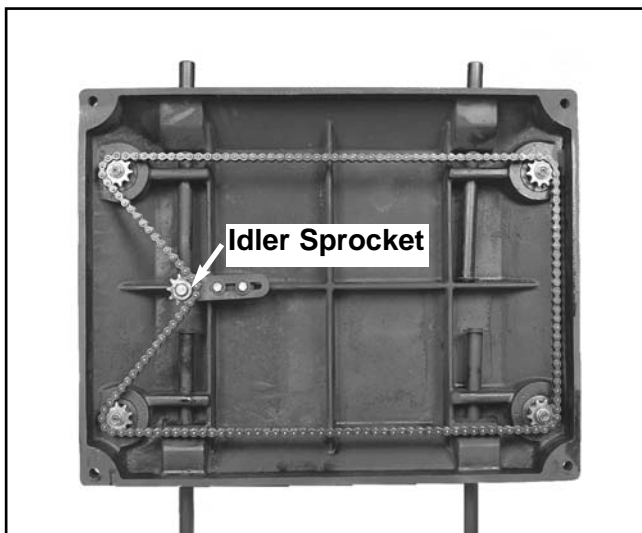

Figure 7. Idler sprocket adjustment.
2. Loosen the two locking bolts and move the idler sprocket until chain play has been eliminated. **See Figure 7.**